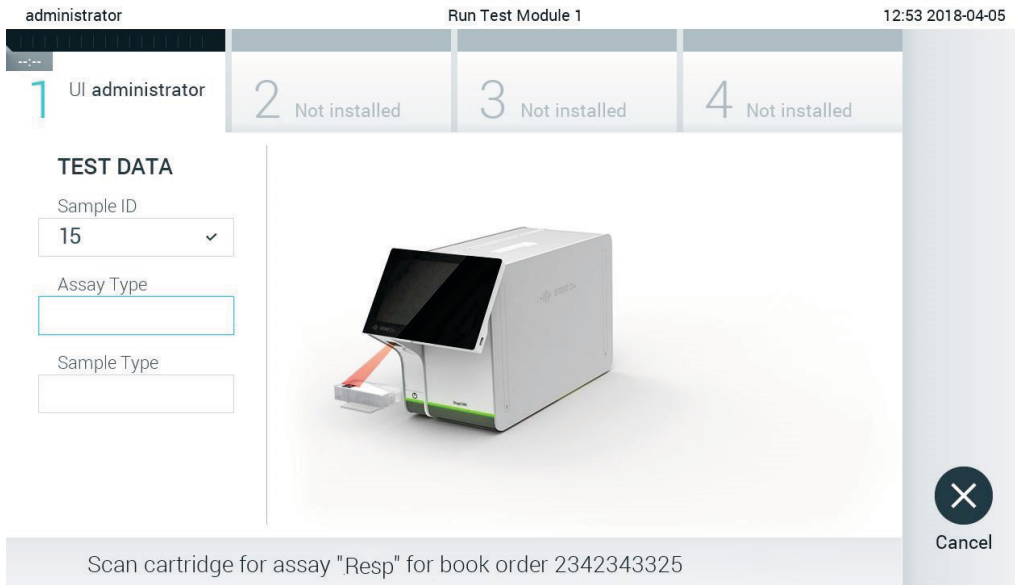

Figure 77. Scanning the QIAstat-Dx assay cartridge bar code.
4. When the test order has been successfully received from the host, “Scan cartridge for assay <assay_name> and book order <order_number>” is displayed. Scan the bar code of the specified QIAstat-Dx assay cartridge (Figure 77, next page).